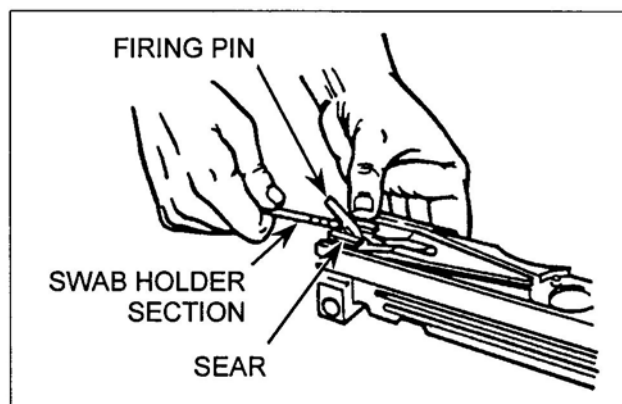

Figure 36. Testing the firing pin release.
- (12) Test firing pin release. Trip the firing pin by depressing the top of the sear with a section of a swab-holder. If doing so makes a sharp metallic sound, then the firing pin spring is in good condition (Figure 36).